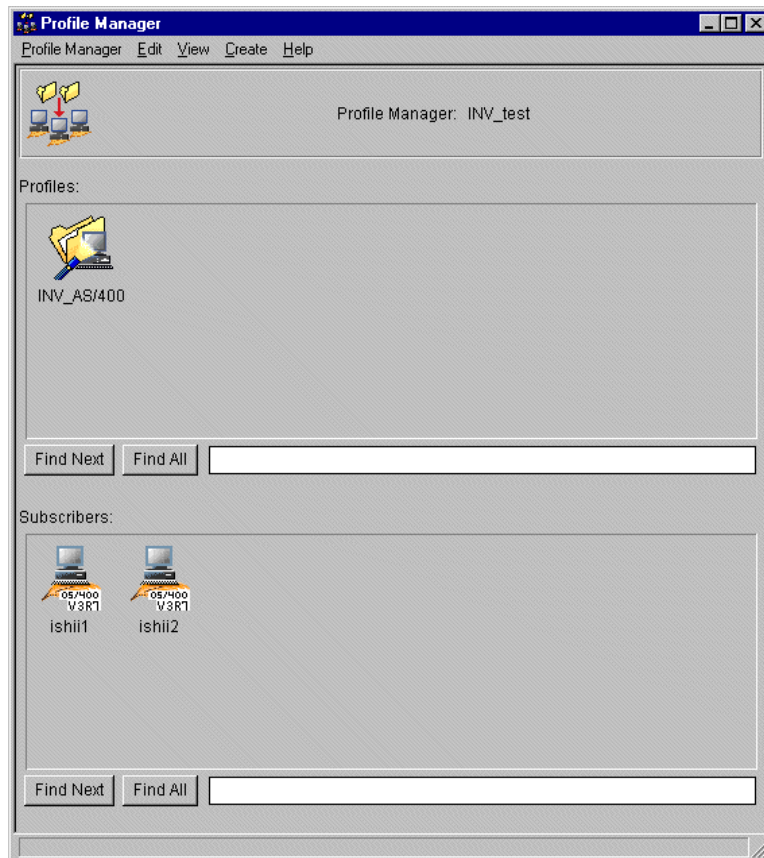

Figure 318. Creating an inventory profile and subscribers
2. Next, add your AS/400 subscribers using the Subscribers option in the Profile Manager menu as shown in Figure 318 on page 484.